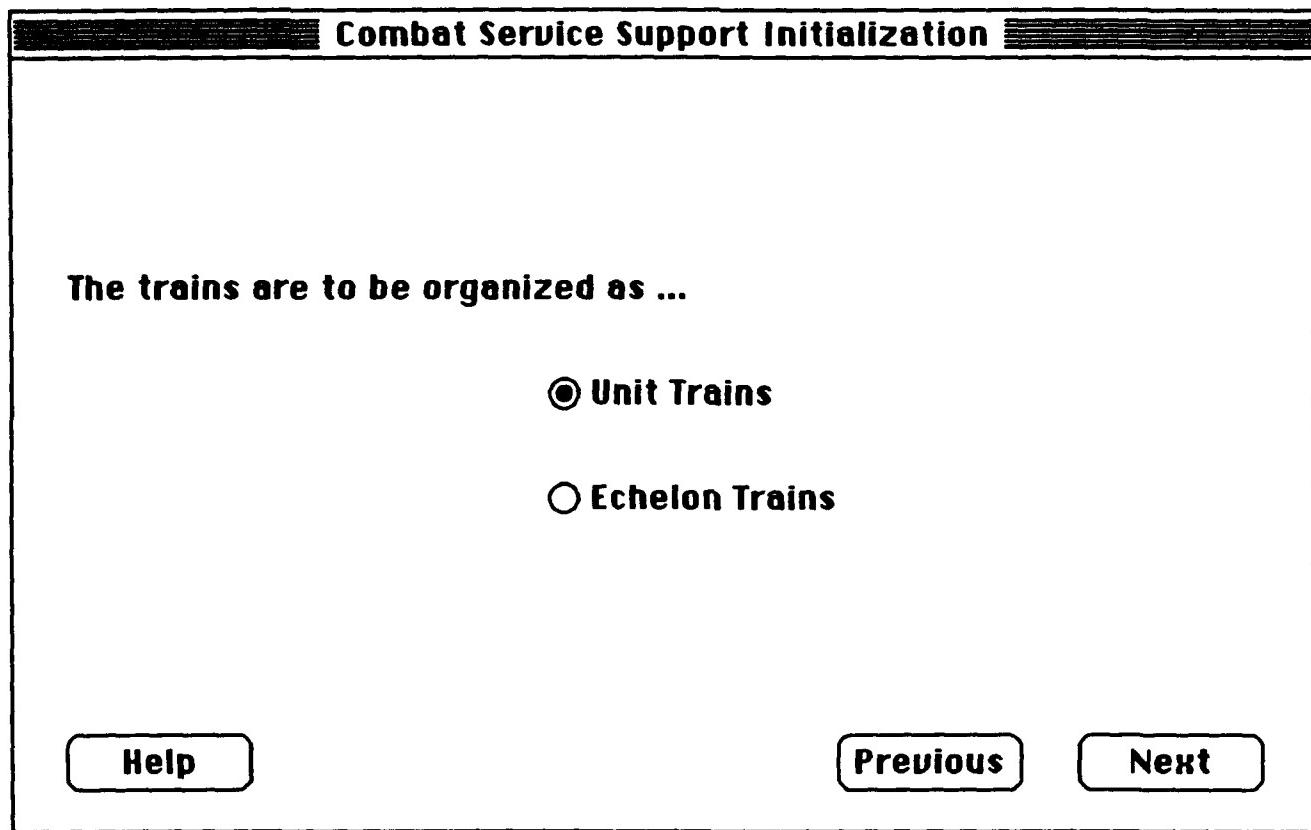

Figure 5.8-5 Combat Service Support vehicle organization
Click on the **Next** button to bring up the Combat Service Support vehicle organization screen as shown in Figure 5.8-5.
Step 1: From Figure 5.8-5, select the Unit Trains circle. This puts the "Support Platoon" under Battalion control and places them in one general location for the beginning of the exercise.
Click on the Previous button to return to the Figure 5.8-5.
Step 1: From Figure 5.8-5, select the Echelon Trains circle.